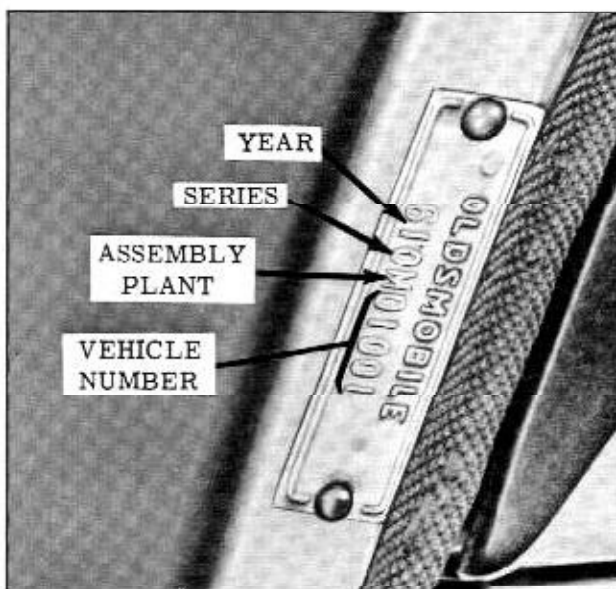

Fig. 1-1 Vehicle Identification Number Plate
The 1961 vehicle identification number plate is located on the left front door pillar as illustrated in Fig. 1-1. Each identification number is prefixed by three numbers and a letter. The first two numbers (61) indicate the year (1961). The third number designates the series.